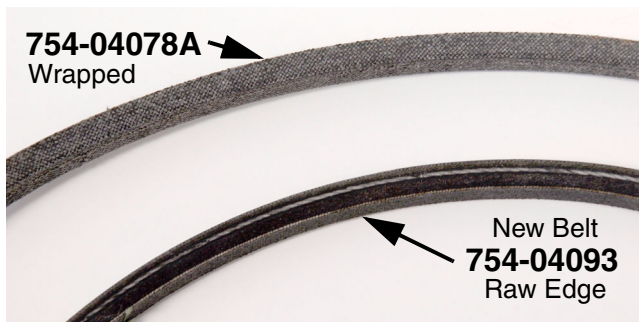

FIGURE 5
**NOTE:** If the number on the existing belt is unreadable refer to Figure 5 to determine which belt is the existing belt.